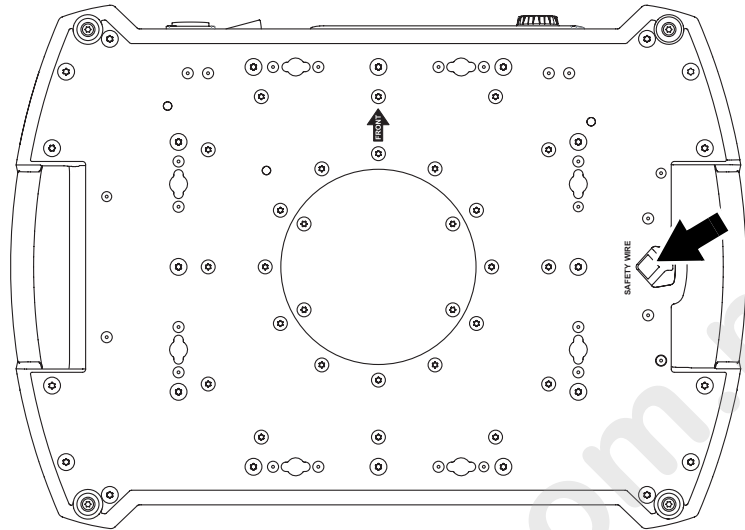

Figure 6: Safety cable attachment point
6. See Figure 6. Install a safety wire that is approved as a safety attachment for the weight of the fixture by looping it through the safety attachment point (arrowed) on the bottom of the base and around a secure anchoring point so that the safety attachment will catch the fixture if the primary attachment fails.